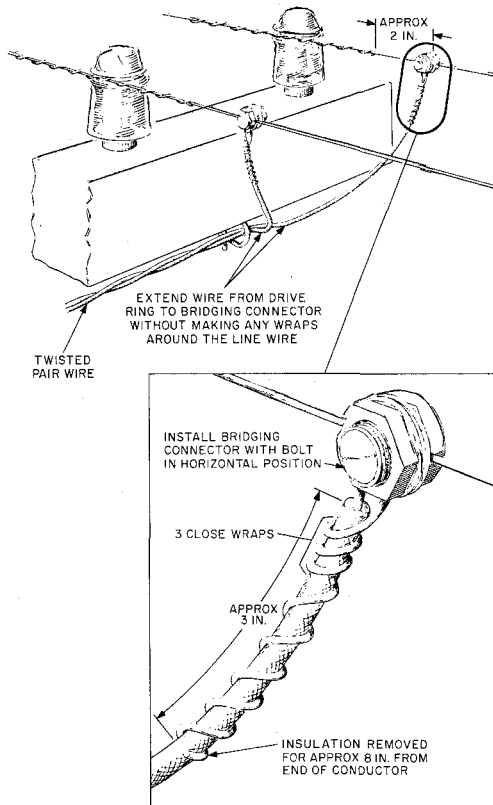

**Fig. 6—Where Lines are Terminated on Deadend Brackets Attached to Face or Back of a Pole**
- 4.15 Poles equipped with deadend brackets (Fig. 6).